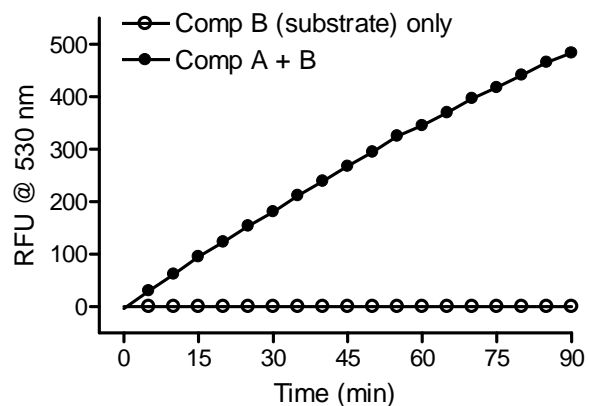

Fig. 2. Kinetic cleavage of FRET HCV PR substrate (component B) by HCV NS3/4A protease (component A).
**D. Data collection at kinetic mode:** Immediately begin to collect RFU signal continuously at excitation/emission =  $490 \pm 10$  nm /  $530 \pm 10$  nm as shown in Figure 2.